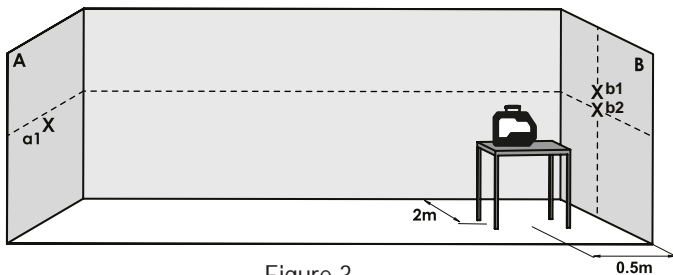

Figure 3
7. Mark on wall **B** the center of the cross beams as **b2** (see figure 3).